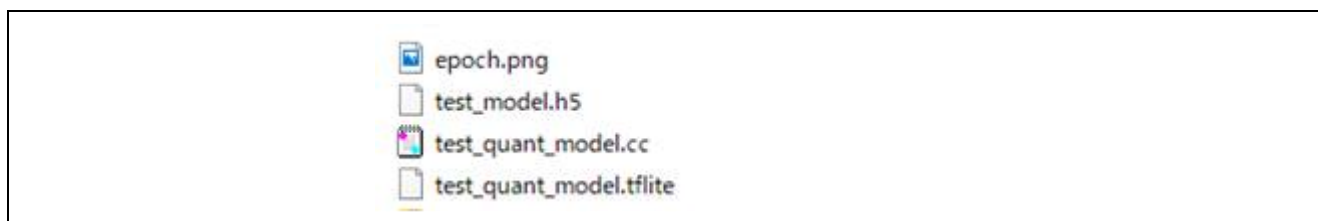

Figure 5-7. AI Model Storage Folder
- ⑤ Confirm that the files shown in Figure 5-7 have been created in the AI_Model folder.